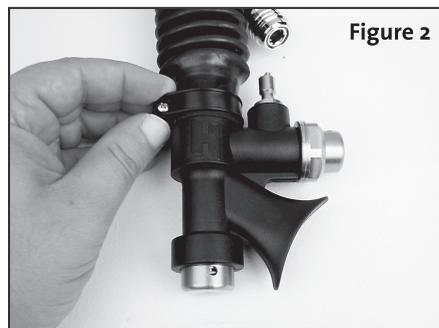

Figure 2
- 5) Place clamp around the hose as shown in Figure 2. Final position of clamp should be opposite the inflator quick-disconnect nipple.
Final installation of the inflator should look like Figure 2.